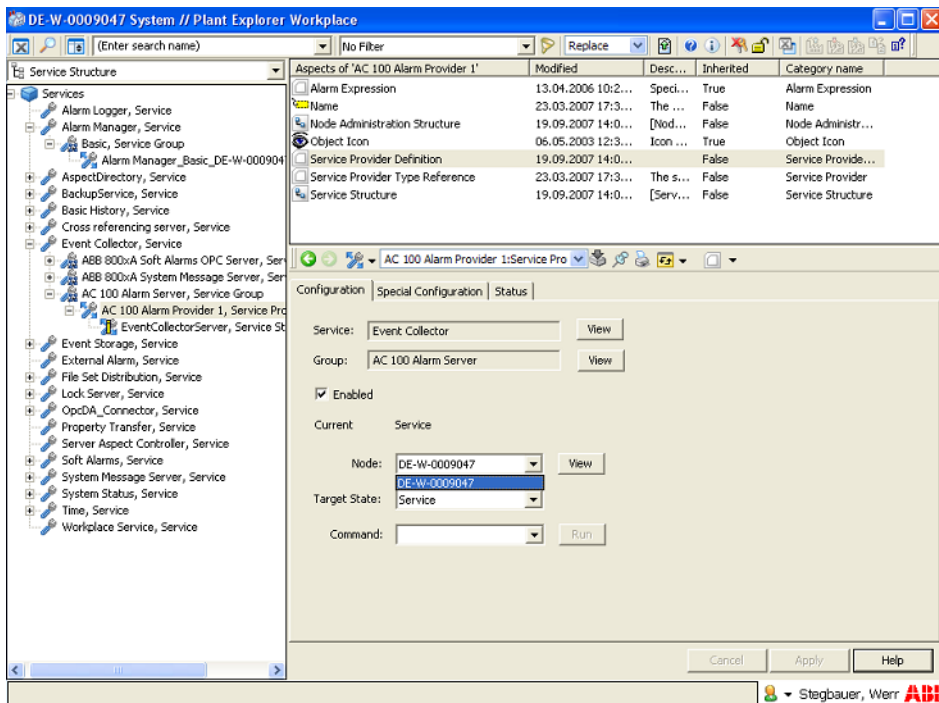

Figure 10. Selecting the node
2. In the *Configuration* tab, define the node and click **Apply** (see Figure 10).